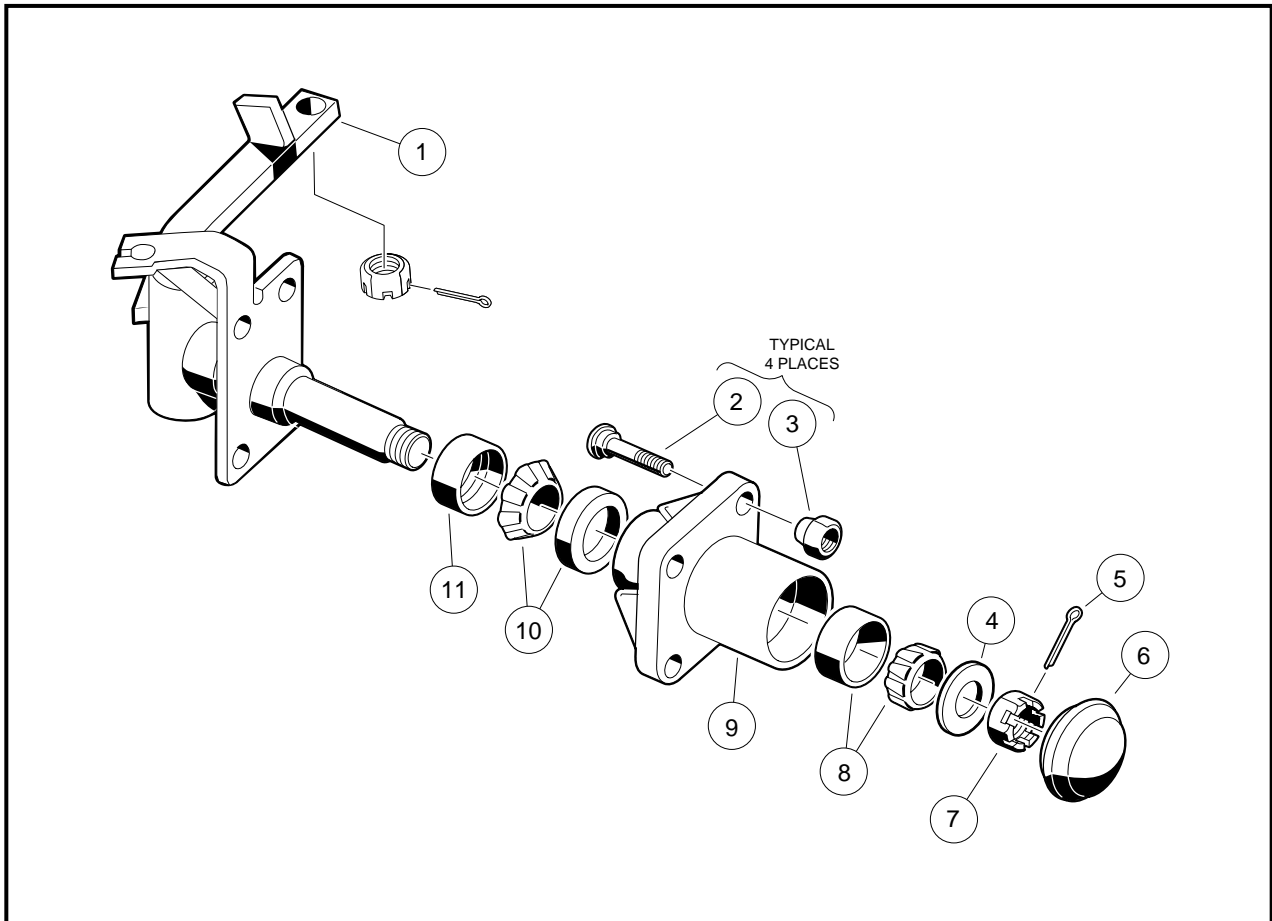

Figure 6-17 Front Spindle Assembly
6. Remove dust cap (6) on hub and bearing assembly (**Figure 6-17, Page 6-10**).
7. Remove cotter pin (5) and hex nut (7) from spindle shaft (**Figure 6-17, Page 6-10**).